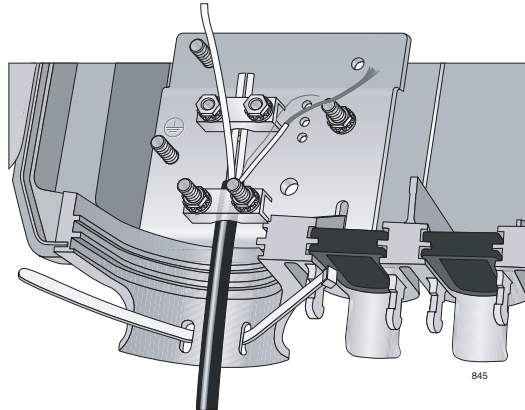

Figure 10. Drop Cable Secured to the Grounding Plate
13. Replace the bar, washers, and Kepnuts on the posts of the drop cable clamp and tighten the Kepnuts to secure the cable, as shown in Figure 10, to between 10 and 12 in-lbs.
12. Replace the bar, washers, and Kepnuts on the posts of the drop cable clamp and tighten the Kepnuts to secure the cable, as shown in Figure 10, to between 10 and 12 in-lbs.